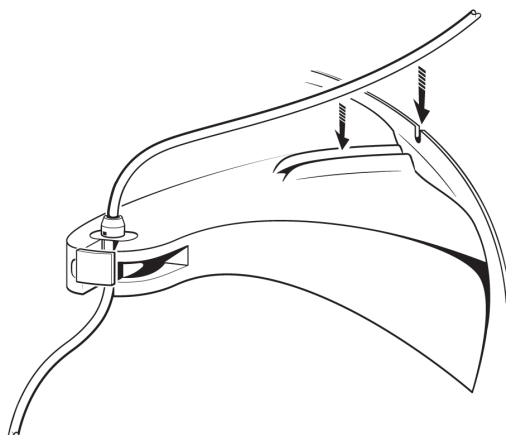

Figure 5. Place the tubing into the groove and through the notch.
8. Press the tubing down into the groove on the support arm and through the notch in the centrifuge ridge (see Figure 5).